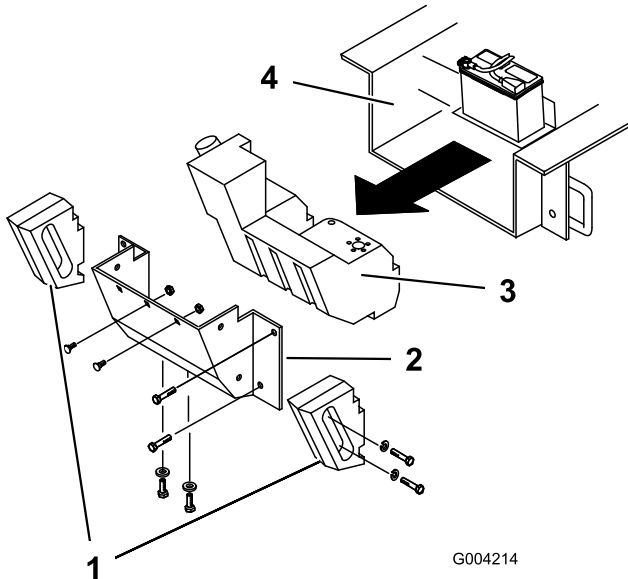

Figure 51
Over time, the chassis under the engine collects dirt and debris that must be removed. Using a flashlight, open the hood and inspect the area under the engine on a regular basis. When the debris is 1 to 2 inches deep, complete the following procedure (refer to Figure 51 throughout this procedure):
4. Remove the bolts, washers, and lock washers securing the two side weights, removing the weights (Figure 51).
7. Remove the six nuts and bolts securing the rear panel, removing the panel (Figure 51).
10. Slide the fuel tank to the rear (Figure 51).
16. Slide the fuel tank part way into the chassis (Figure 51).
21. Replace the rear panel and secure it with the six bolts and nuts removed previously (Figure 51).
23. Install the side weights with the bolts, washers, and lock washers removed previously (Figure 51).